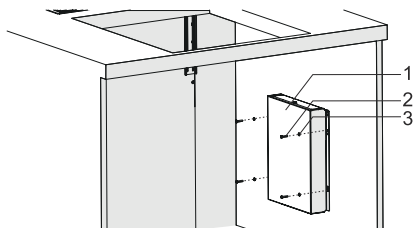

Fig. 16
6. ➔ Place the hood circuit box at a suitable location in the cabinet. Insert roves to four 3.9x22 screws and mount inside the cabinet (Fig. 16).